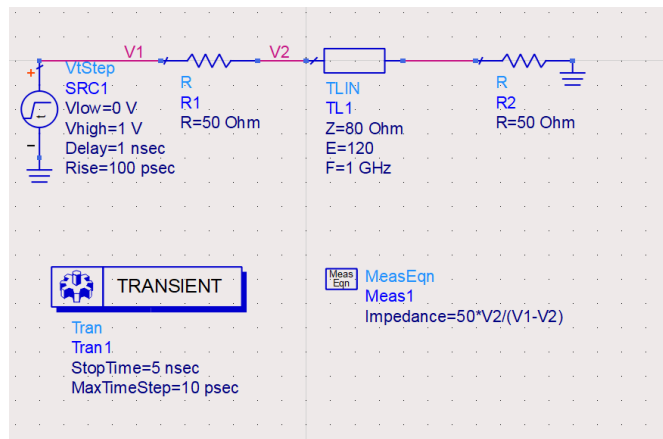

Figure 3: *Transient1* Schematic.
1. Create a new schematic named "*Transient1*". Draw the circuit with the given parameters as in Figure 3.